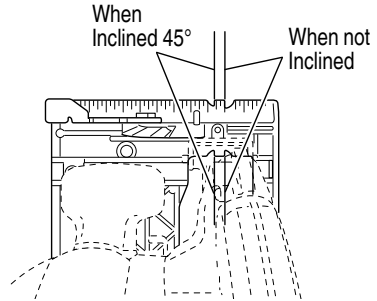
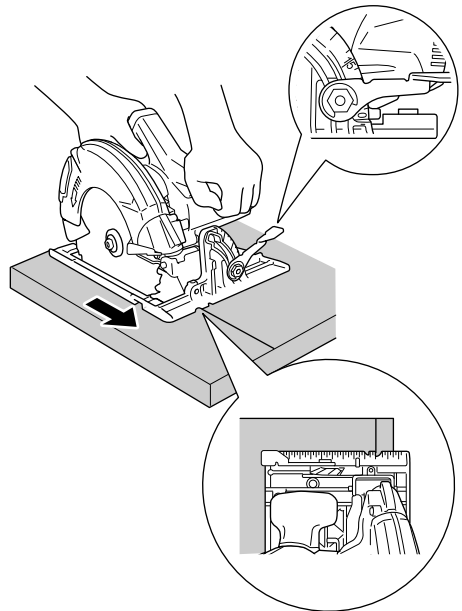
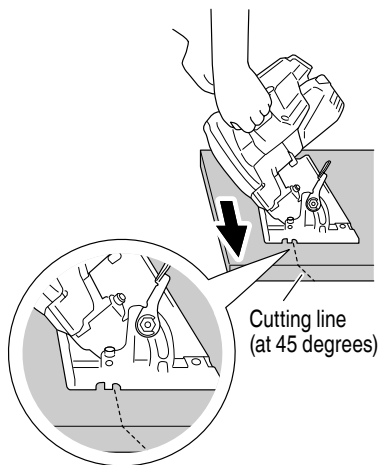

Fig. 31
Fig. 32
Fig. 33
- (1) Place the base on the material, then align the premarked line and the saw blade with the notch at the front of the base (Fig. 31).
- (2) When the base is not inclined, use the right side of the notch (Fig. 31, Fig. 32). If the base is inclined (45 degrees), use the left side of the notch (Fig. 31, Fig. 33).
4. Tilt saw forward and align the notch (Fig. 31) with the pre-marked guide line.